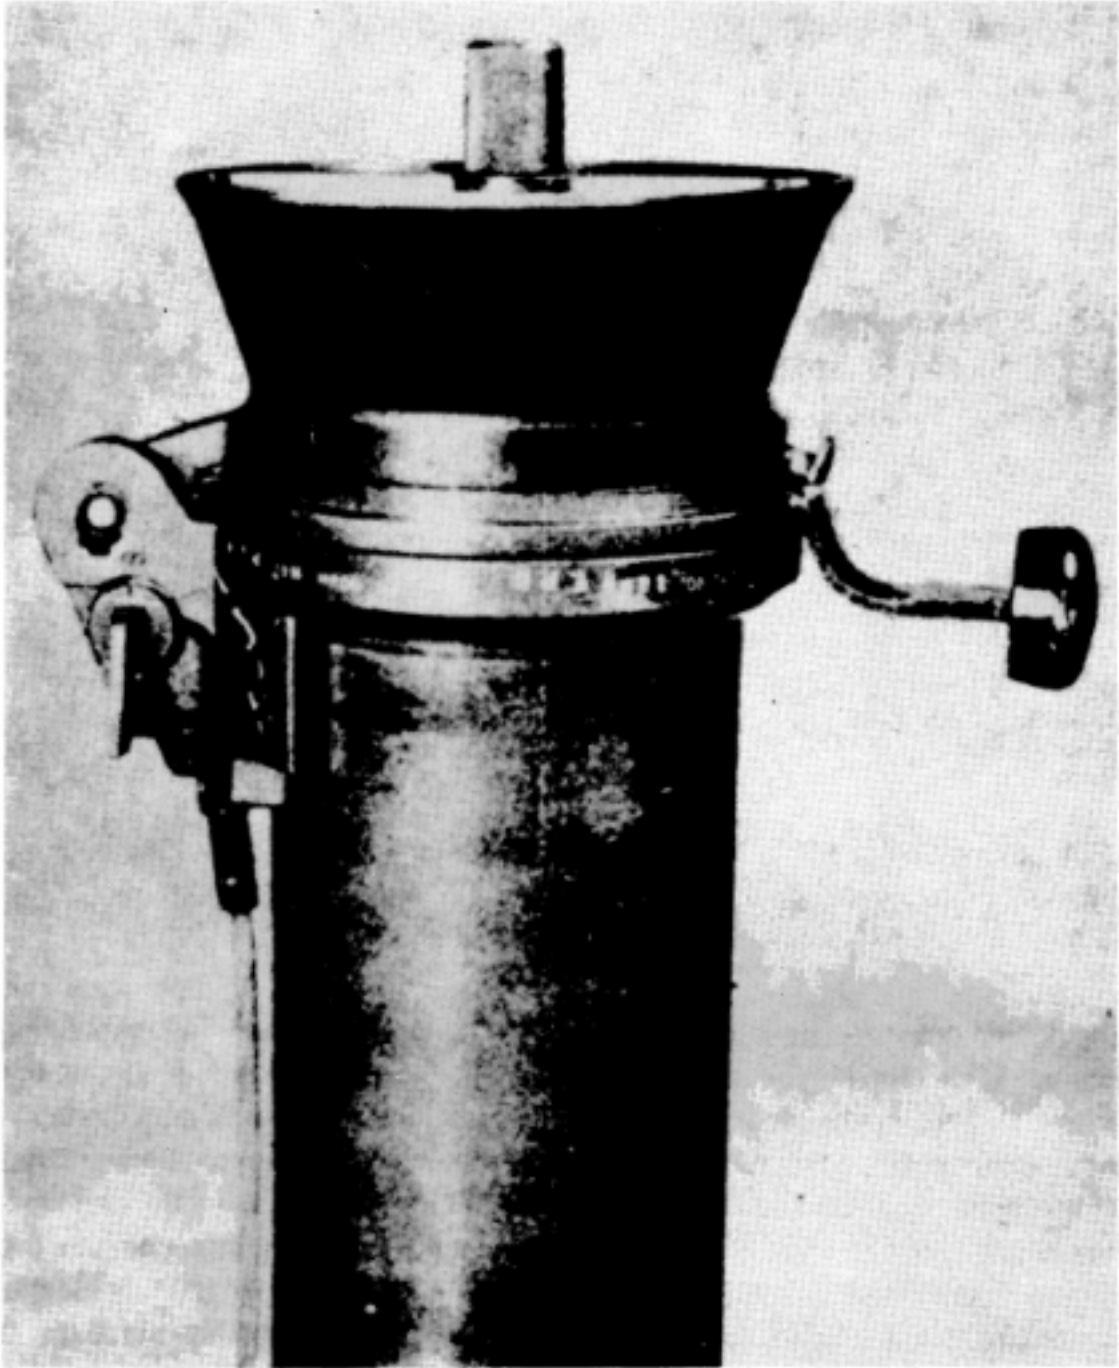

Figure 19. Safety arm in safe position.
b. Loading 90mm Rifle (fig. 18). To load the 90mm rifle, the loader inserts a cartridge into the chamber and completely chambers it by sharply pushing the cartridge all the way forward. To close and lock the breech, he grasps the locking handle with his right hand, moves the breechblock forward until it is seated in the breech, and rotates the locking counterclockwise until it is fully locked. Upon locking the breech, he inspects the backblast area to see that the area is clear. If the area is clear, he moves the safety arm to the fire position *F* (fig. 19), taps the gunner on the shoulder, and calls UP to indicate to the gunner that the rifle is ready to fire. Figure 19 Shows the safety arm in the safe position.